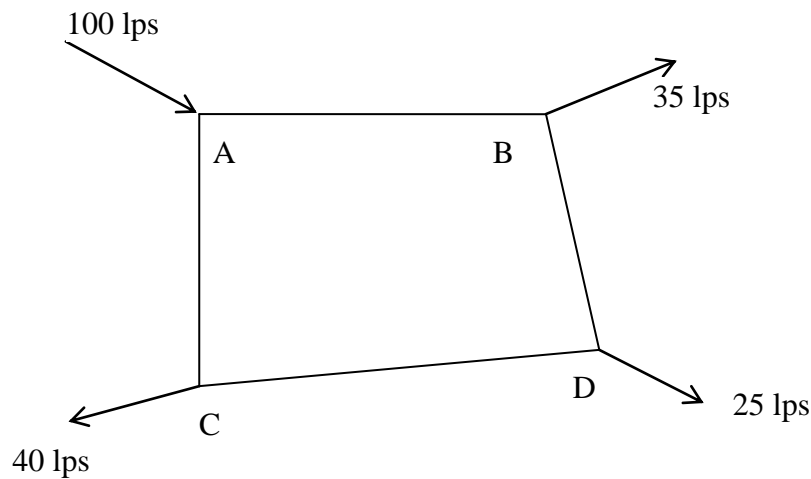

Figure 1
5. (c) Figure 1 shows a reticulation system in a housing estate. Estimate the flow rate in each pipeline using Hardy-Cross Method and Hazen-William formula up-to two iteration. Adopt Hazen-William coefficient C as 100. Use an initial flow rate of 60 litres per second (lps) from point A to B. Given that the parameters for the pipes are as follows: